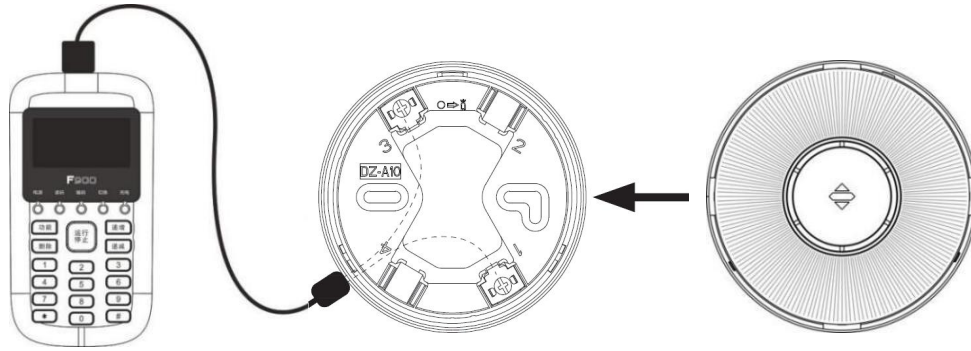

Fig.4
5.3 Coding address: As shown in Fig.4, connect the audible and visual alarm through the matching base on the encoder (the matching base for encoding is DZ-A10), L1 and L2 adopt non-polar connection, set the encoder as the coding function, compile the correct address code, press the "Run" button to complete the address code setting. (Note: Please refer to the encoder manual for coding details)